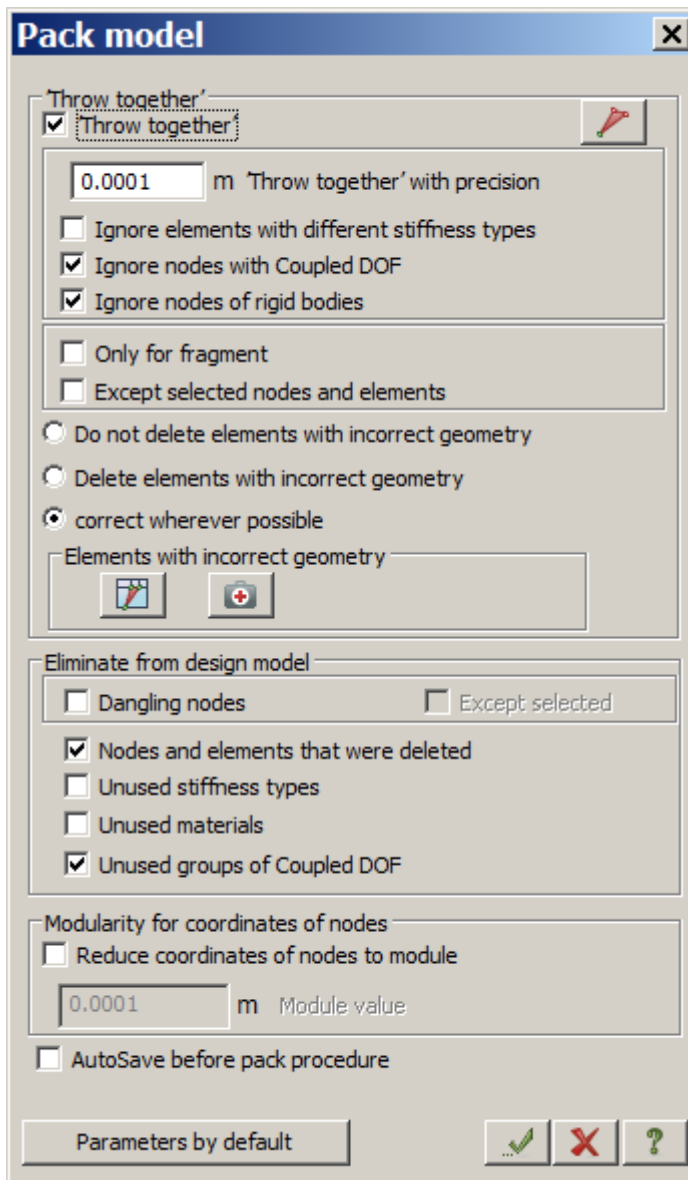

Figure 4.6 **Pack model** dialog box
- ⇒ In the **Pack model** dialog box (see Fig.4.6), click **Apply** . It is necessary to pack the model in order to 'throw together' coincident nodes and elements and to eliminate (that is, to remove completely) deleted nodes and elements from design model.